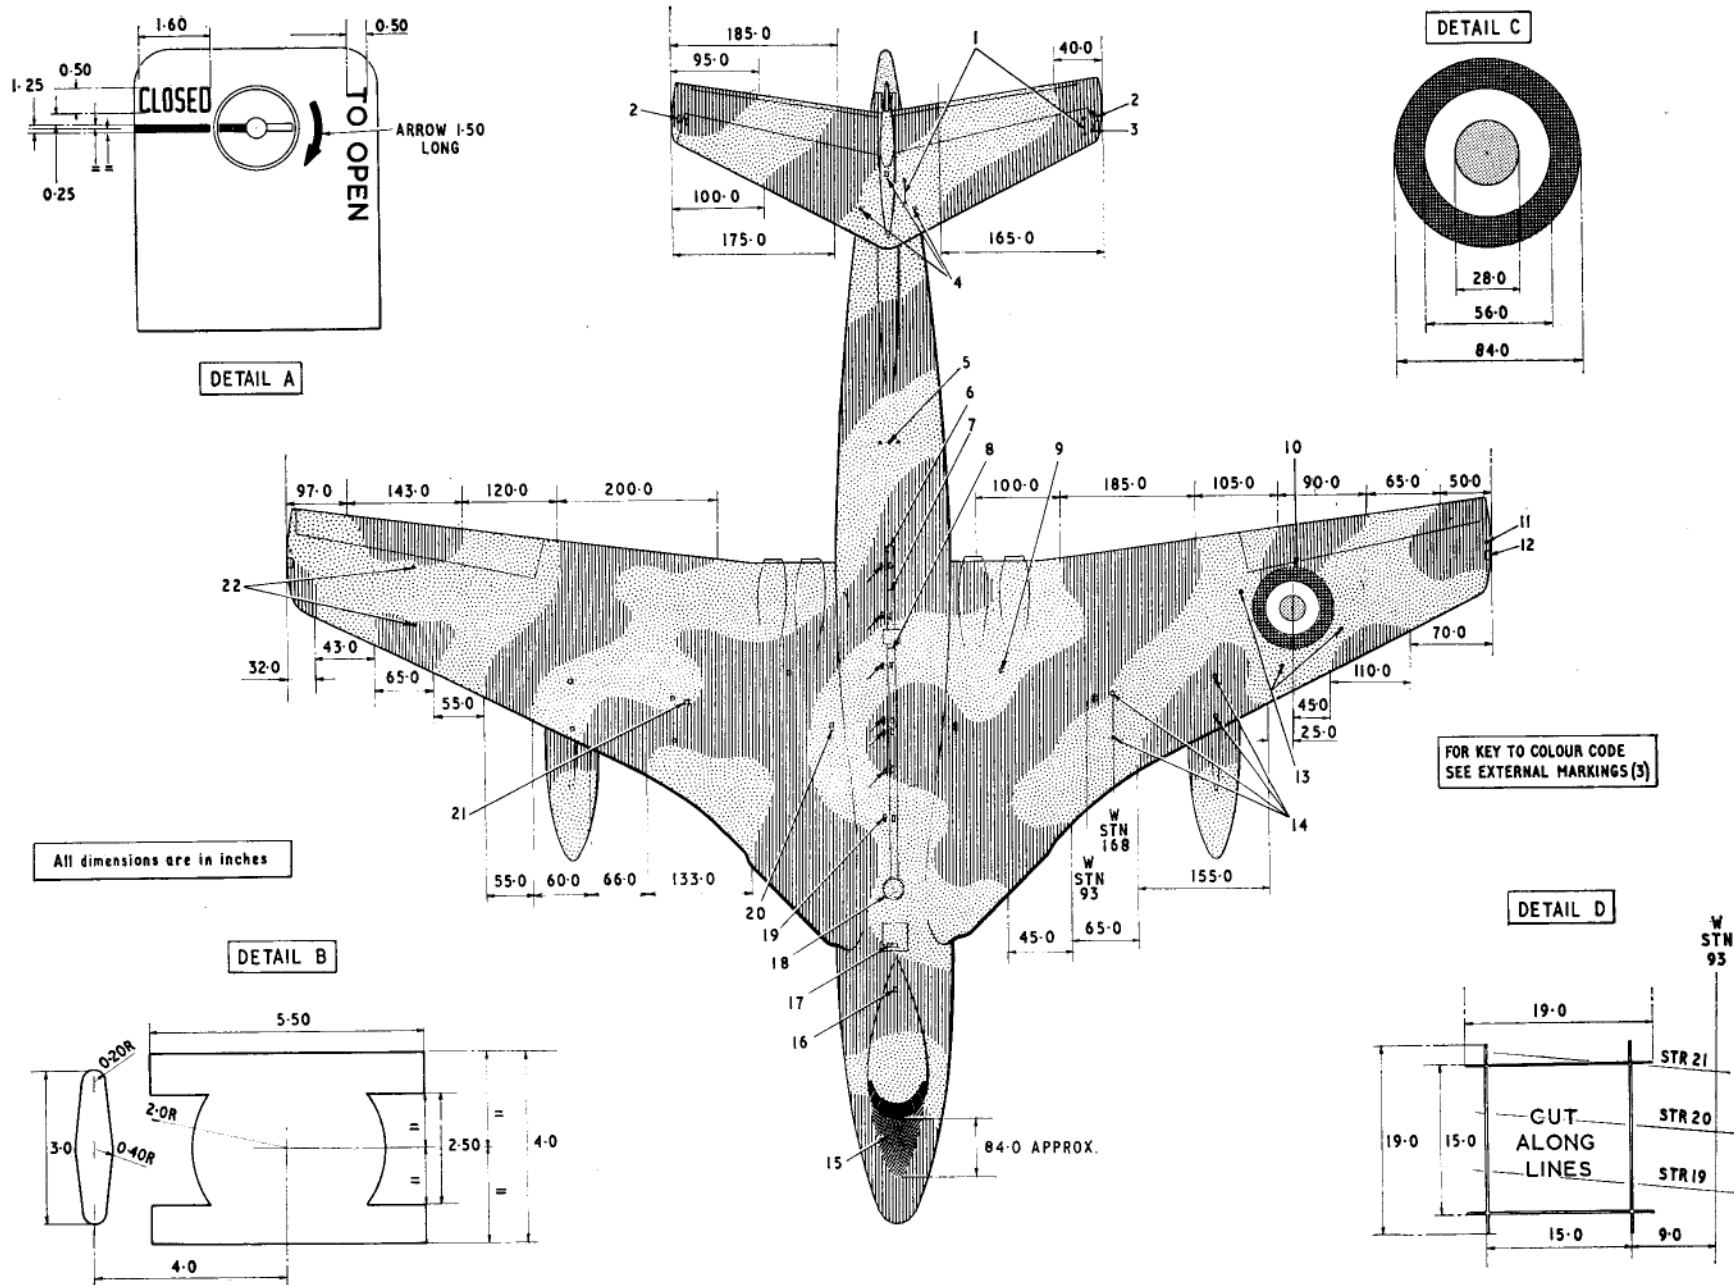

Fig. 16. External markings (1) — camouflaged aircraft
Key to Fig. 16. (External markings (1)—camouflaged aircraft)
| 13 | Underwing tank nose cap | Refer to Fig. 16, Detail B. Arrow points aft. |